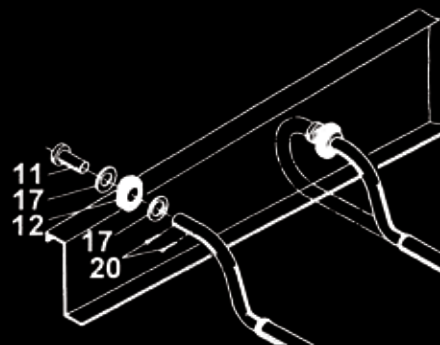

Fig. 3
Insert the rubber grommets (fig. 3/12) into the pre-punched holes on the left hand part of the chassis member. Thread a washer (21) (fig. 3/17) onto each telescopic tube and insert the tubes through the rubber grommets. Insert another washer (21) (fig. 3/17) and the lug type bushing onto the ends of the tubes. Secure the telescopic tubes on to the chassis by fixing them either side with 2 off 5x30 split pins (fig. 3/20).